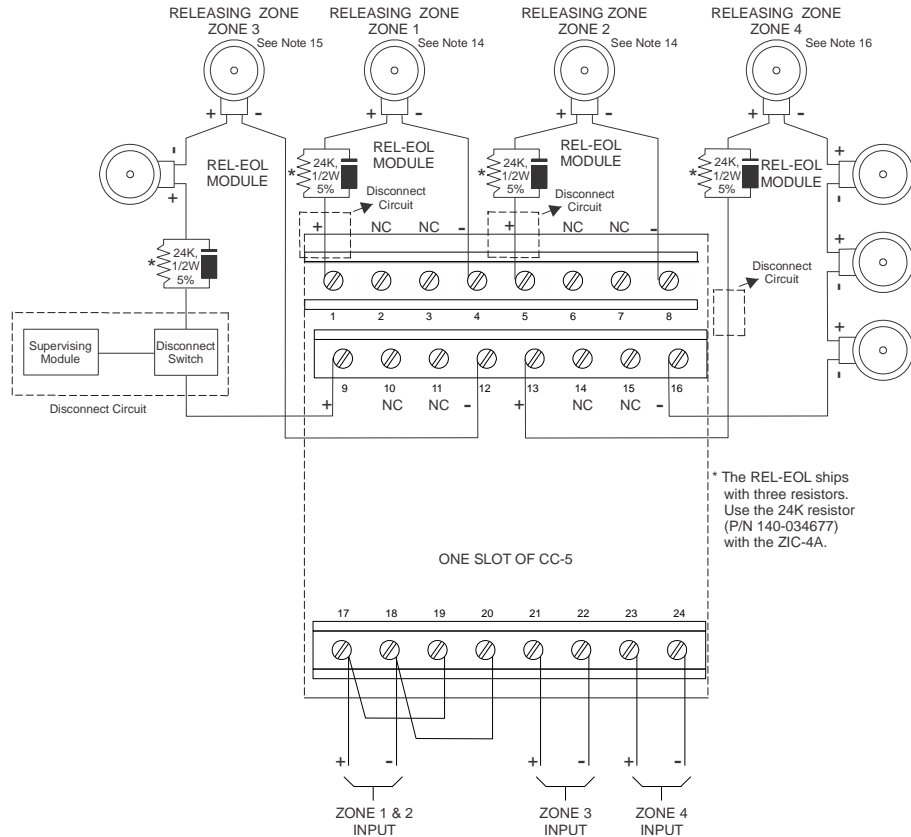

Figure 9
7. Refer to Figure 9 for ZIC-4A output solenoid wiring for Releasing Service. Connect the zone output appropriately.